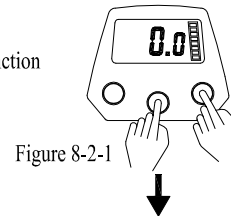

Figure 8-2-1
1. Press "RESET" and "MENU" at the same time to enter into the setting function (Figure 8-2-1).